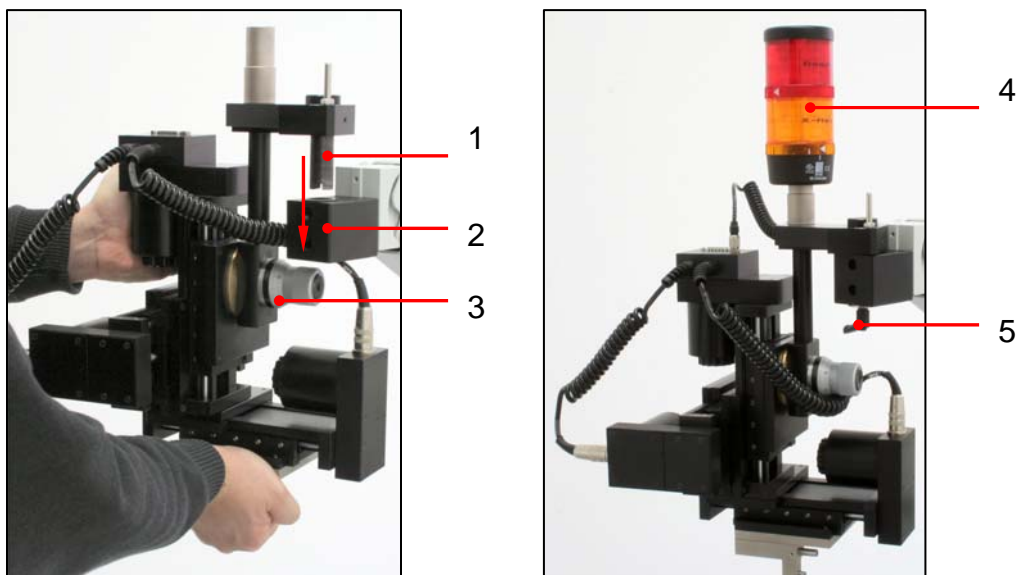

Fig. 31: Installation of XYZ adjustment unit
2. Pull out catch (see Fig. 31, pos. 3) on the swivel joint of the XYZ adjustment unit and position XYZ attachment parallel to the Z-axis.
3. Insert the XYZ adjustment unit in the direction of the arrow into the seating on the floating arm and tighten retainer (see Fig. 31, pos. 1, 2 and 5)
4. Affix warning lamp onto the holder and connect up (see Fig. 31, pos. 4)